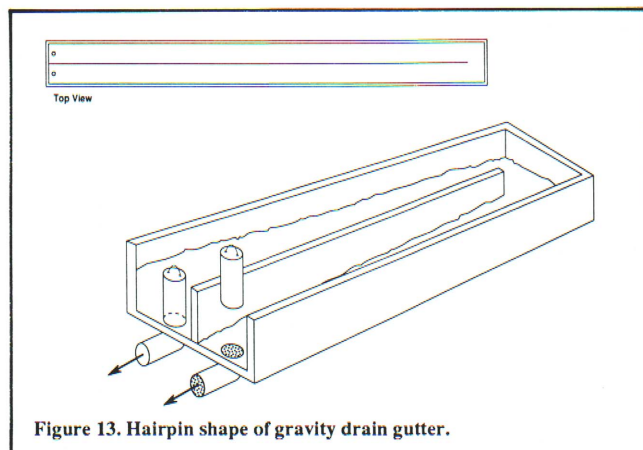

Figure 13. Hairpin shape of gravity drain gutter.
4. Plugs have been placed at both ends of the flat bottom gutter to help in cleaning. A plug at one end is pulled to drain the gutter, and at the next draining, the opposite end plug is pulled. An adaptation of this is the hairpin gutter (Fig. 13).